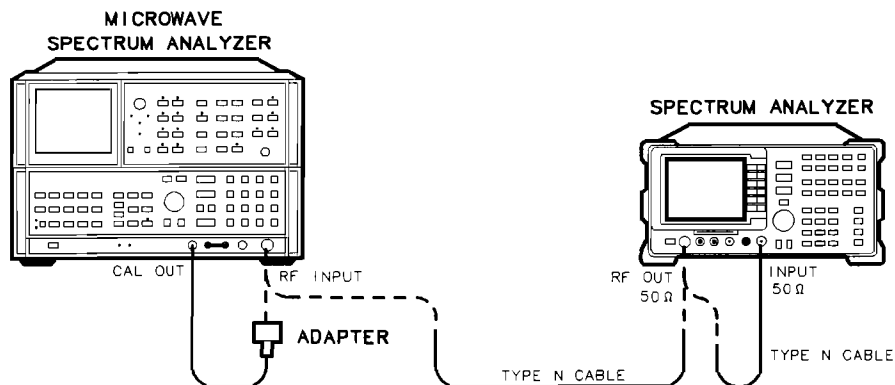

Figure 2-96. Non-Harmonic Spurious Outputs Test Setup
2. Connect the Type N cable between the RF OUT 50 Ω and INPUT 50 Ω connectors on the spectrum analyzer. See Figure 2-96.
4. Connect the Type N cable from the tracking generator output to the microwave spectrum analyzer RF INPUT as shown in Figure 2-96.